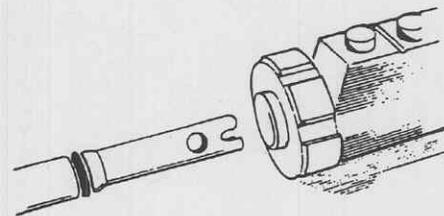

Figure 2-4. Cutter/bur receptacle alignment.
- a. Align a cutter and bur drive coupling with the receptacle on the handpiece as illustrated in figure 2-4, making sure the key portion of the cutter/bur is placed into any of the four slots.